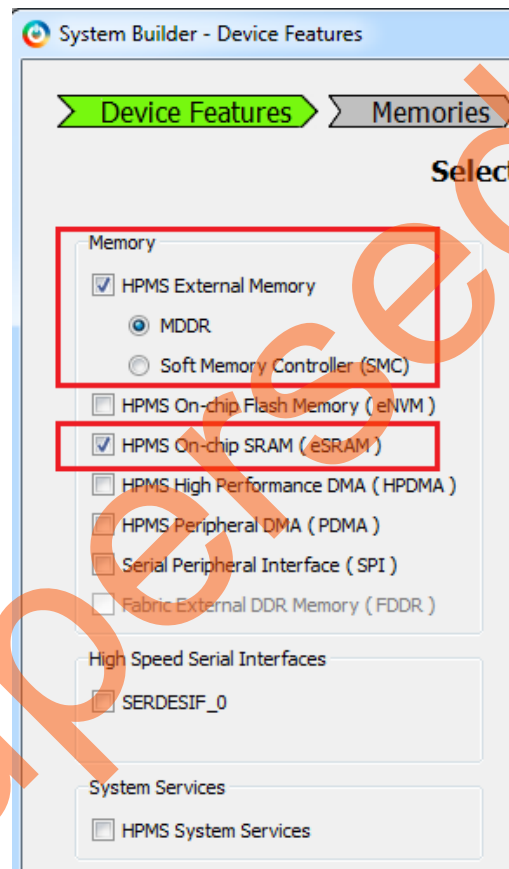

Figure 4 • System Builder - Device Features
2. Click the **Device Features** tab in the **System Builder** window. Figure 4 shows the **System Builder - Device Features** window.
3. Select the **HPMS External Memory** and **HPMS On-Chip SRAM (eSRAM)** check boxes under **Memory** as shown in Figure 4.